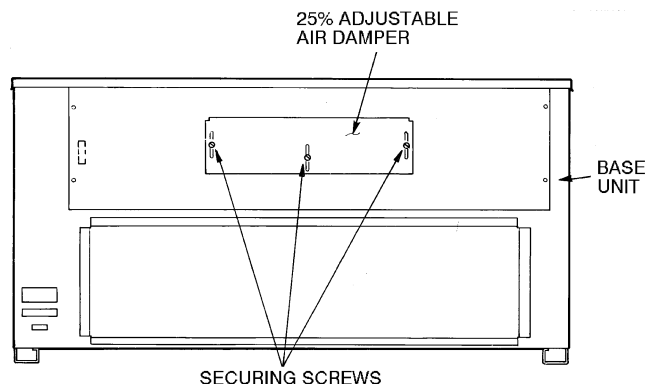

Fig. 16 — 25% Outdoor-Air Section Details
Damper can be preset to admit up to 25% outdoor air into return-air compartment. To adjust, loosen securing screws and move damper to desired setting, then retighten screws to secure damper (Fig. 16).
4. Remove OAT from the outside of the economizer (see Fig. 16).
5. Mount the enthalpy sensor (Fig. 23) to the economizer on the outside of the unit (in the same location from which the OAT was removed) using the 2 screws provided. See Fig. 16.